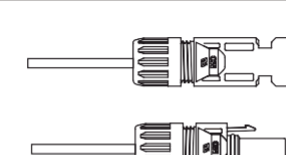

Figure 5.15 Connector with Cap nut Screwed on
4. Insert metal connector into top of connector, and tighten nut with torque 3-4 Nm (see figure 5.15).